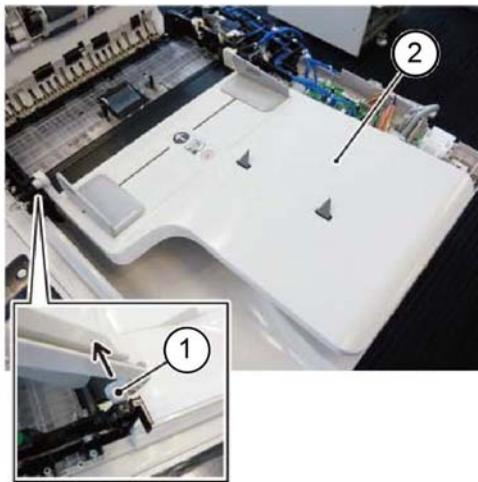

Figure 3 Document tray removal
4. Remove the document tray, Figure 3:
- a. At the front, squeeze the boss (1) in the direction of the arrow, then remove it from the hole.
- b. Remove the document tray (2).